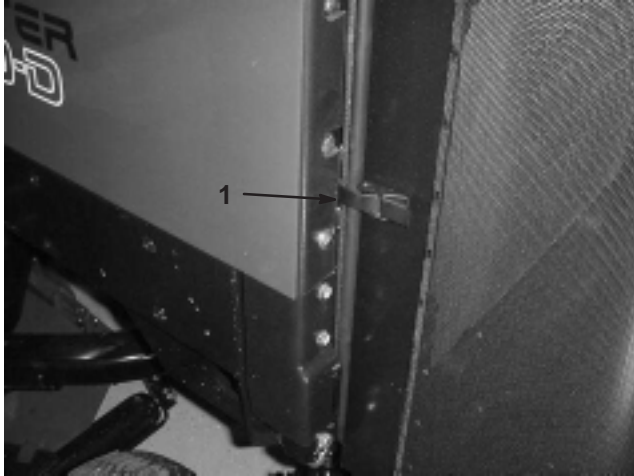

Figure 32
1. Unlatch and swing open rear screen (Fig. 32). Clean the screen thoroughly of all debris.